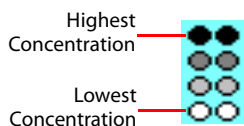

Figure 6-6: Concentration Representation in Dilution Series
3. Select a series operator, enter an operand, and select the appropriate dilution orientation (see Figure 6-6).